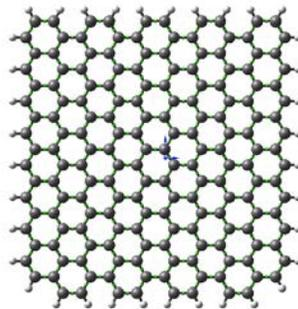

Figure 2
- 2) Graphene is a two dimensional material made of carbon atoms (see Figure 2), and has a thickness of  $\sim 0.335$  nm (one atom thick sheet of carbon atoms). Assuming that linear elastic fracture mechanics can be used, (a) discuss the approach to compute the fracture toughness of the graphene sheet, (b) what are the boundary conditions for this problem and how will they differ from Question 1?